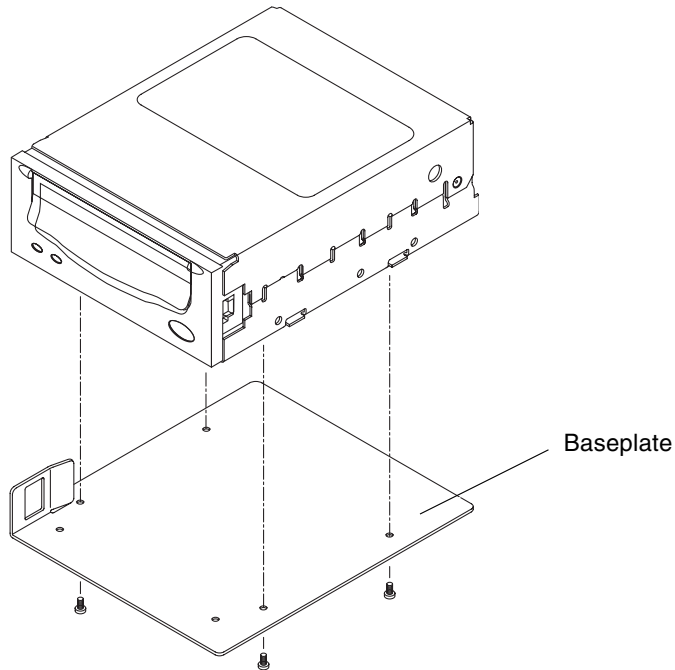

FIGURE 6-11 Removing or Attaching the Baseplate to the Tape Drive
7. Remove the four screws securing the baseplate to the drive you removed. Remove the baseplate (FIGURE 6-11).
8. Attach the baseplate to the new tape drive. Use the four countersunk screws shipped with the drive (FIGURE 6-11).
6. Line up the baseplate of the tape drive filler panel with the tape drive. Attach the baseplate to the tape drive. Use the four countersunk screws shipped with the drive (FIGURE 6-11).